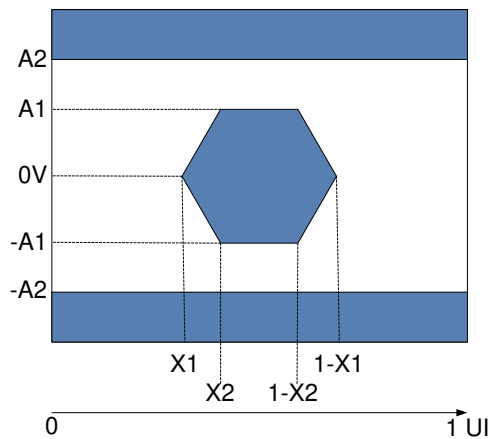

Figure 5-12. HSSI Eye Characteristics
- (1) All power supply connections are required to operate the DMD: V_{DD}, V_{DDA}, V_{OFFSET}, V_{BIAS}, and V_{RESET}. All V_{SS} connections are required to operate the DMD.
- (2) All voltage values are with respect to the ground pins (V_{SS}).
- (3) To prevent excess current, the supply voltage delta | V_{DDA} – V_{DD} | must be less than the specified limit.
- (4) To prevent excess current, the supply voltage delta | V_{BIAS} – V_{OFFSET} | must be less than the specified limit.
- (5) Supply power dissipation based on 3 global resets in 200μs.
- (6) LVC MOS input specifications are for pin DMD_DEN_ARSTZ.
- (7) LVC MOS output specification is for pins LS_RDATA_A and LS_RDATA_B.
- (8) Refer to Figure 5-12, Receiver Eye Mask (1e-12 BER).
- (9) Defined in Section 5.4.